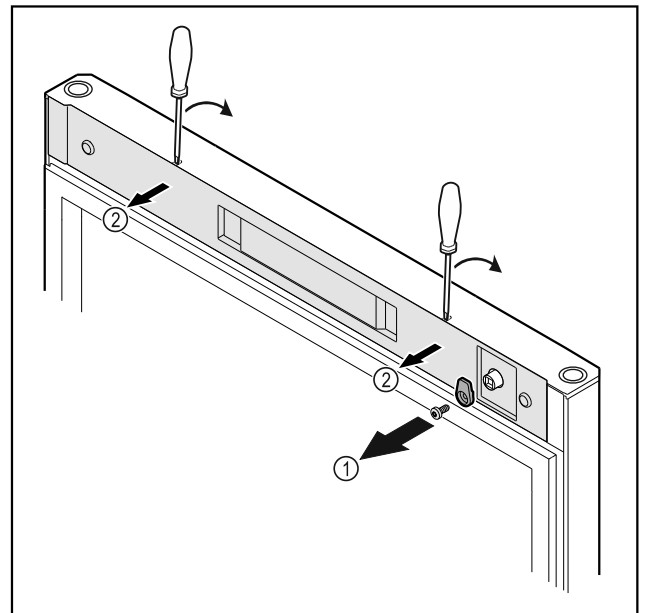

Fig. 12
- ▶ Unscrew the door latch Fig. 12 (1).
- ▶ Unlatch the cover Fig. 12 (2) with a small screwdriver and remove it.